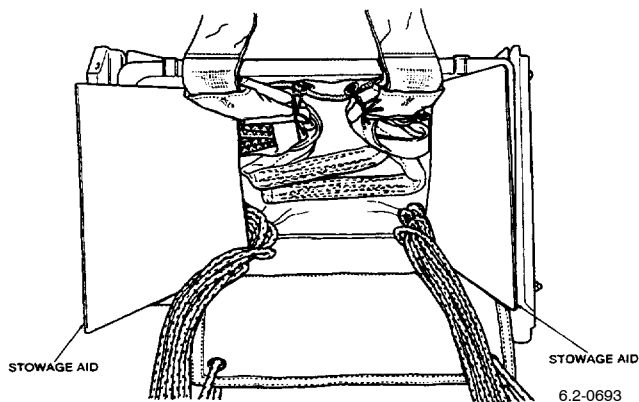

Figure 44. Deployment Sleeve Stowage Aids Positioned
j. Form a bight of the LH/RH groups and position the bight in the bottom of the container (Figure 44).
them in the bight in the suspension lines and outboard of the connector links. Push down as far as possible (Figure 44).